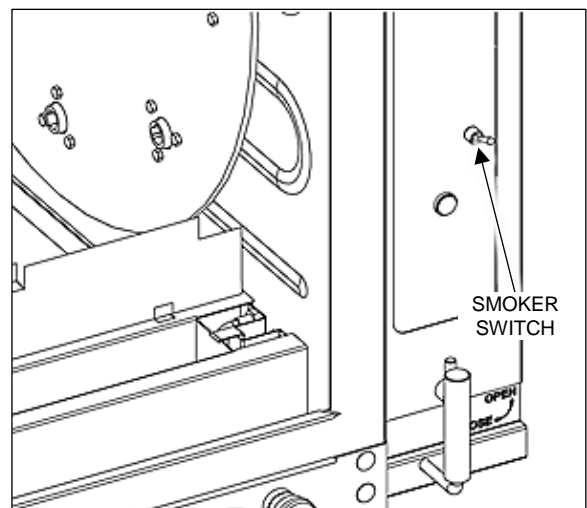

Figure 7-2
5. Close the box's lid and turn ON the smoker (switch at the bottom of the control panel) to activate the smoker (see Figure 7-2).